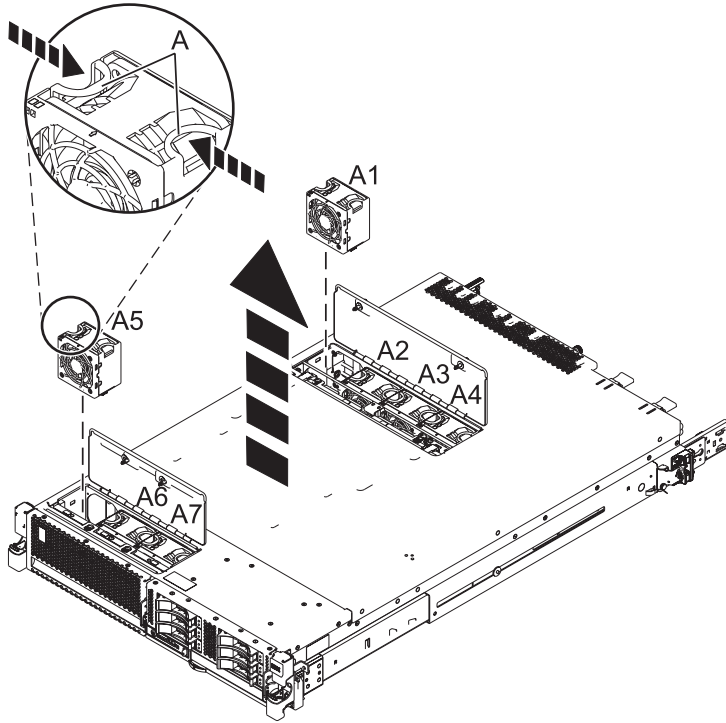

Figure 1. Removing a fan from the 8231-E2B, 8231-E1C, 8231-E1D, 8231-E2C, 8231-E2D, or 8268-E1D
- a. Feed the fan cage cable through the chassis wall opening as shown in Figure 1.